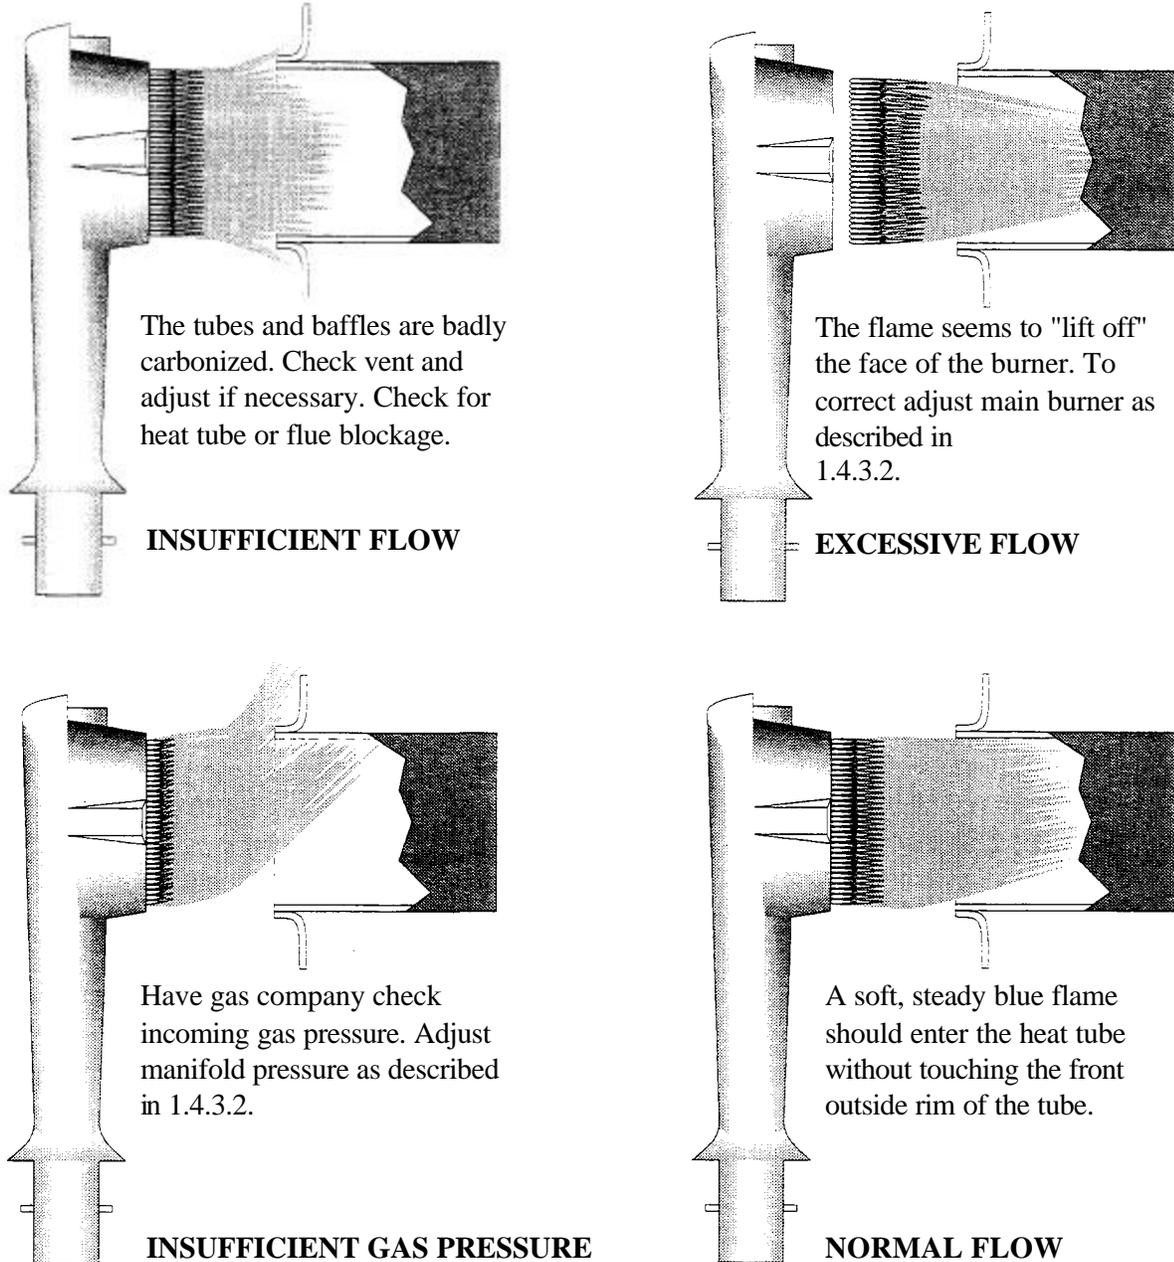

Figure 1-4 Main Burner Conditions
- h. Adjust the shape and size by raising or lowering the air collars to achieve a soft blue flame with well defined inner cones (see Figure 1-4).